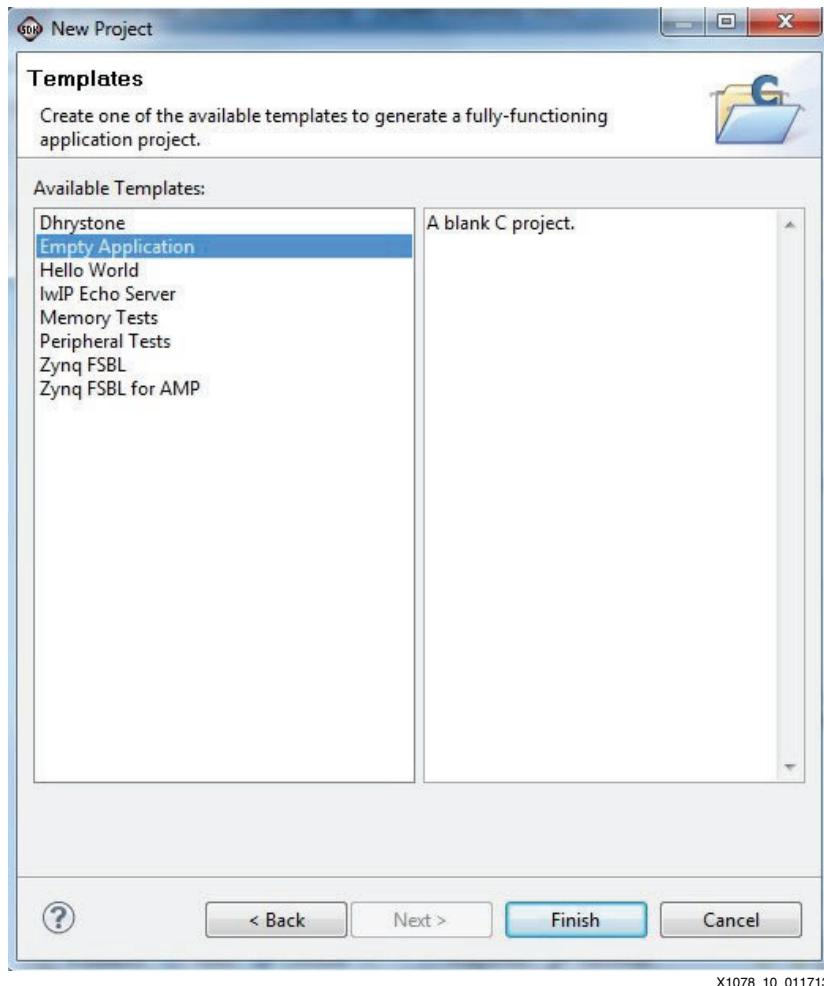

Figure 10: CPU1 Empty Application
- f. Choose the Empty Application template (Figure 10).